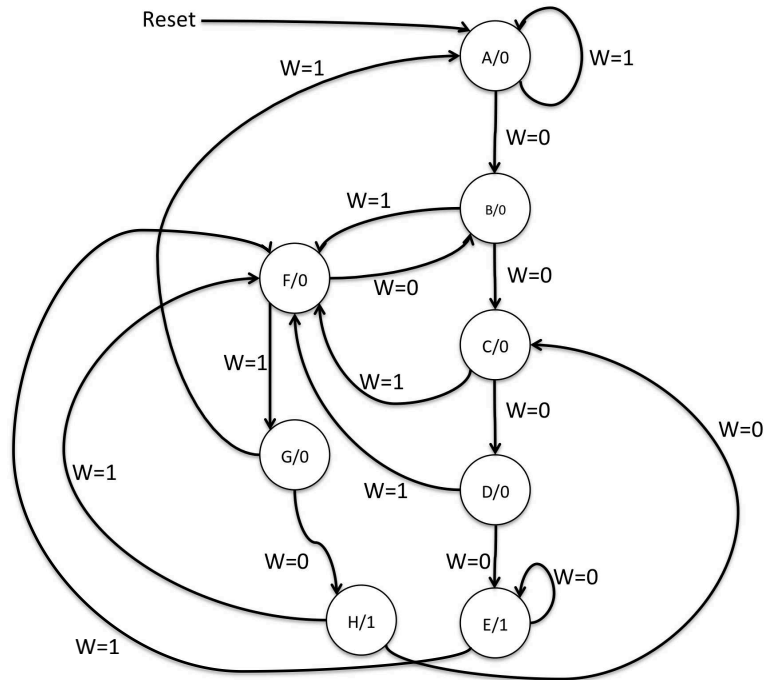

Figure 2: A state diagram for the FSM.
A state diagram for this FSM is shown in Figure 2. For this part you are to manually derive an FSM circuit that implements this state diagram, including the logic expressions that feed each of the state flip-flops. To implement the FSM use seven state flip-flops called y_7, \dots, y_0 and the one-hot state assignment given in Table 1.
For this part you are to write another style of Verilog code for the FSM in Figure 2. In this version of the code you should not manually derive the logic expressions needed for each state flip-flop. Instead, describe the state table for the FSM by using a Verilog **case** statement in an **always** block, and use another **always** block to instantiate the state flip-flops. You can use a third **always** block or simple assignment statements to specify the output z . To implement the FSM, use three state flip-flops y_2, \dots, y_0 and binary codes, as shown in Table 3.
4. To examine the circuit produced by Quartus II open the RTL Viewer tool. Double-click on the box shown in the circuit that represents the finite state machine, and determine whether the state diagram that it shows properly corresponds to the one in Figure 2. To see the state codes used for your FSM, open the Compilation Report, select the **Analysis and Synthesis** section of the report, and click on **State Machines**.